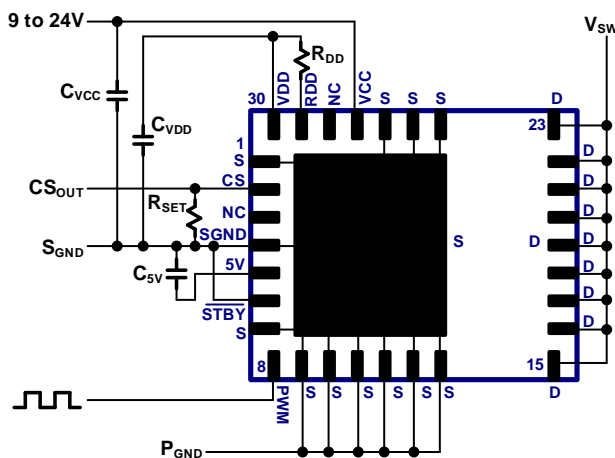

Fig. 20. IC connection diagram
The typical connection diagram for this GaN Power IC is shown in Fig. 20. The IC pins include drain of the GaN power FET (D), source of the GaN power FET (S), IC supply ( $V_{CC}$ ), gate drive supply ( $V_{DD}$ ), gate drive turn-on control SET input ( $R_{DD}$ ), PWM input (PWM), separate signal GND ( $S_{GND}$ ), current sensing output (CS), auto-standby mode input ( $\overline{STBY}$ ), and 5V supply (5V). The Source pad and Source pins (S) should all be connected to the system  $P_{GND}$ .  $S_{GND}$  pin 4 must be connected directly to Source PAD underneath IC. The Source pins (S) should each be connected externally to the Source pad directly underneath the IC. The Drain Pins (D) should all be shorted together by copper in the layout (see Section 9). The external components around the IC include  $V_{CC}$  filter capacitor ( $C_{VCC}$ ) connected between  $V_{CC}$  pin and  $S_{GND}$  pin,  $V_{DD}$  filter capacitor ( $C_{VDD}$ ) connected between  $V_{DD}$  pin and  $S_{GND}$  pin, turn-on dV/dt set resistor ( $R_{DD}$ ) connected in between  $V_{DD}$  pin and  $R_{DD}$  pin, a current sense amplitude set resistor ( $R_{SET}$ ) connected between CS pin and  $S_{GND}$ , and auto-standby mode pin ( $\overline{STBY}$ ) connected to  $S_{GND}$ . An external capacitor ( $C_{5V}$ , 0.01uF max) is required between pin 5V and  $S_{GND}$ . This 5V pin is for internal purposes only and must not be used for biasing external circuitry.